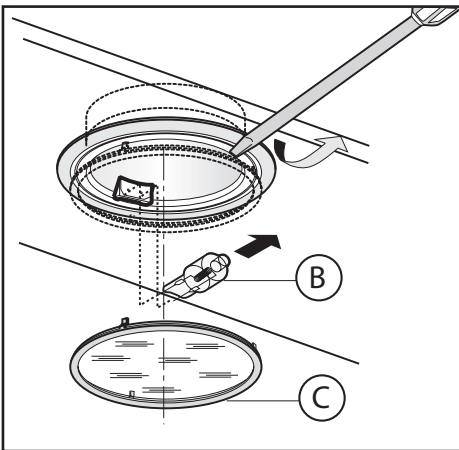

Fig.8A
• **Replacing halogen light bulbs (Fig.8A):**